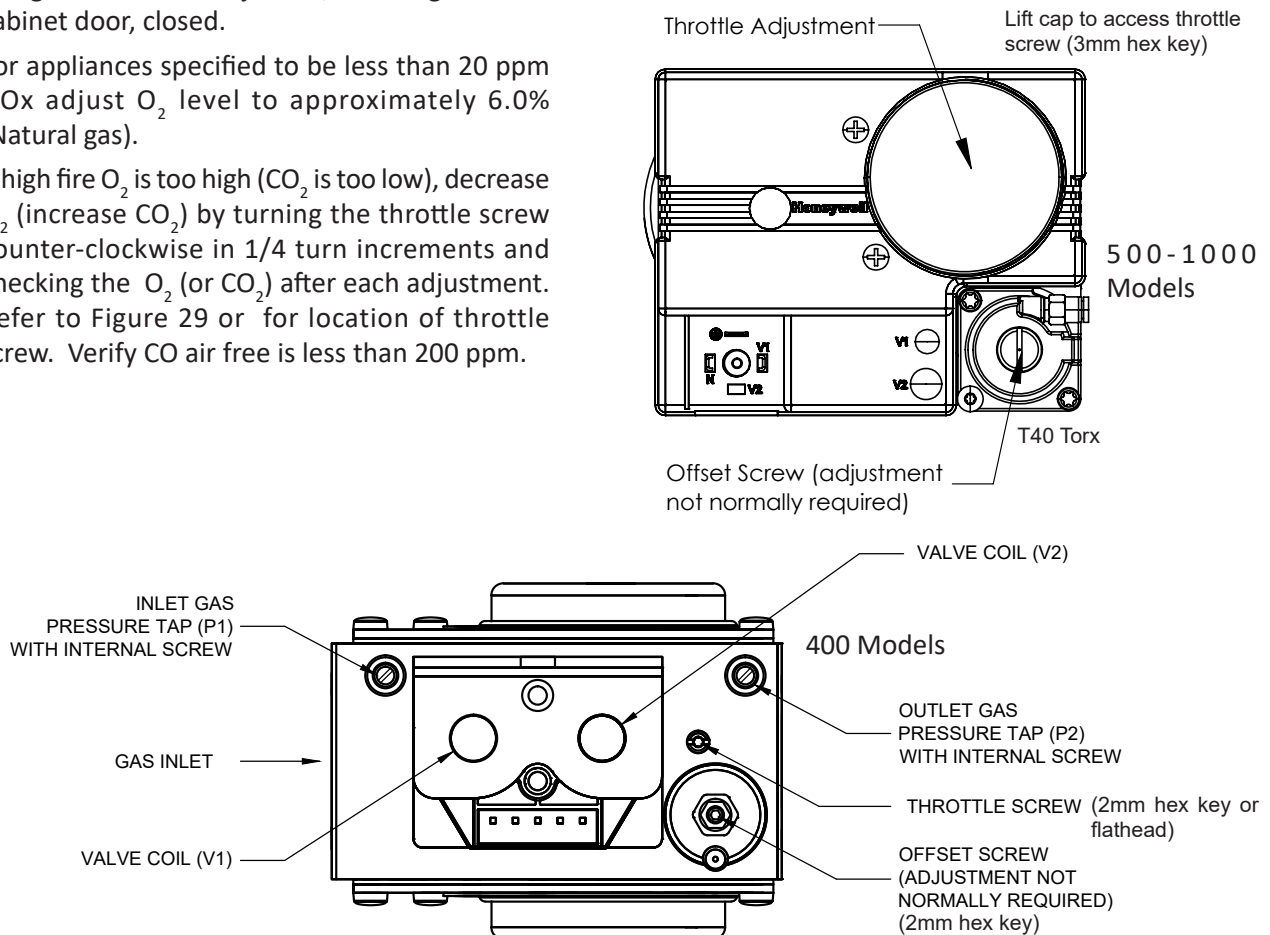

Figure 29: Gas Valve Adjustment
- d. If high fire O_2 is too high (CO_2 is too low), decrease O_2 (increase CO_2) by turning the throttle screw counter-clockwise in 1/4 turn increments and checking the O_2 (or CO_2) after each adjustment. Refer to Figure 29 for location of throttle screw. Verify CO air free is less than 200 ppm.